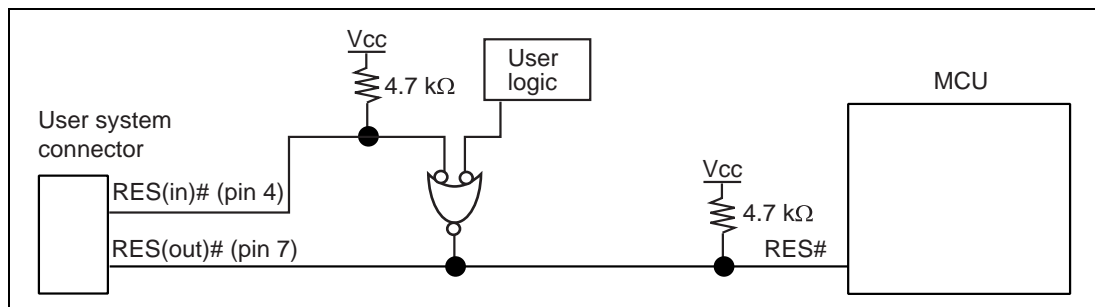

Figure 1.6 Example of Reset Circuits
- RES(in)# of pin 4 of the user system connector is a signal line in which the emulator outputs signals to the MCU. RES(in)# of pin 4 and the user system reset circuit must be connected to the MCU, as shown in figure 1.6. RES(out)# of pin 7 of the user system connector is a signal line in which the emulator monitors the RES# signal of the MCU. The RES# must be pulled up before it is connected to pin 7 of the user system connector.